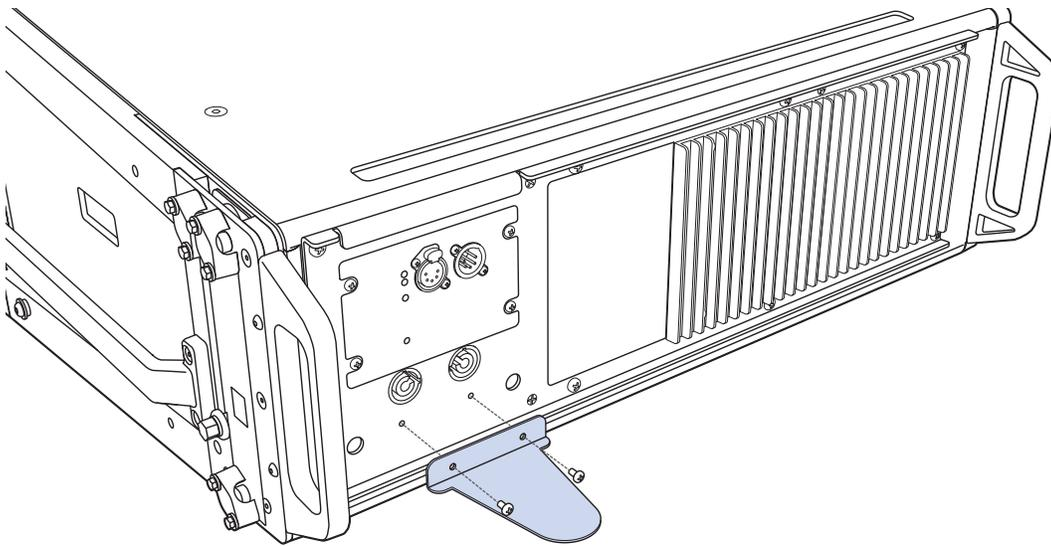

Figure 27: Attaching Rain Hood Baffle to LEOPARD Loudspeaker User Panel
4. Attach the Baffle in the orientation shown in Figure 27 using the two provided screws. The recommended torque value for both screws is 10–12 in-lbs (1.1–1.4 N·m).